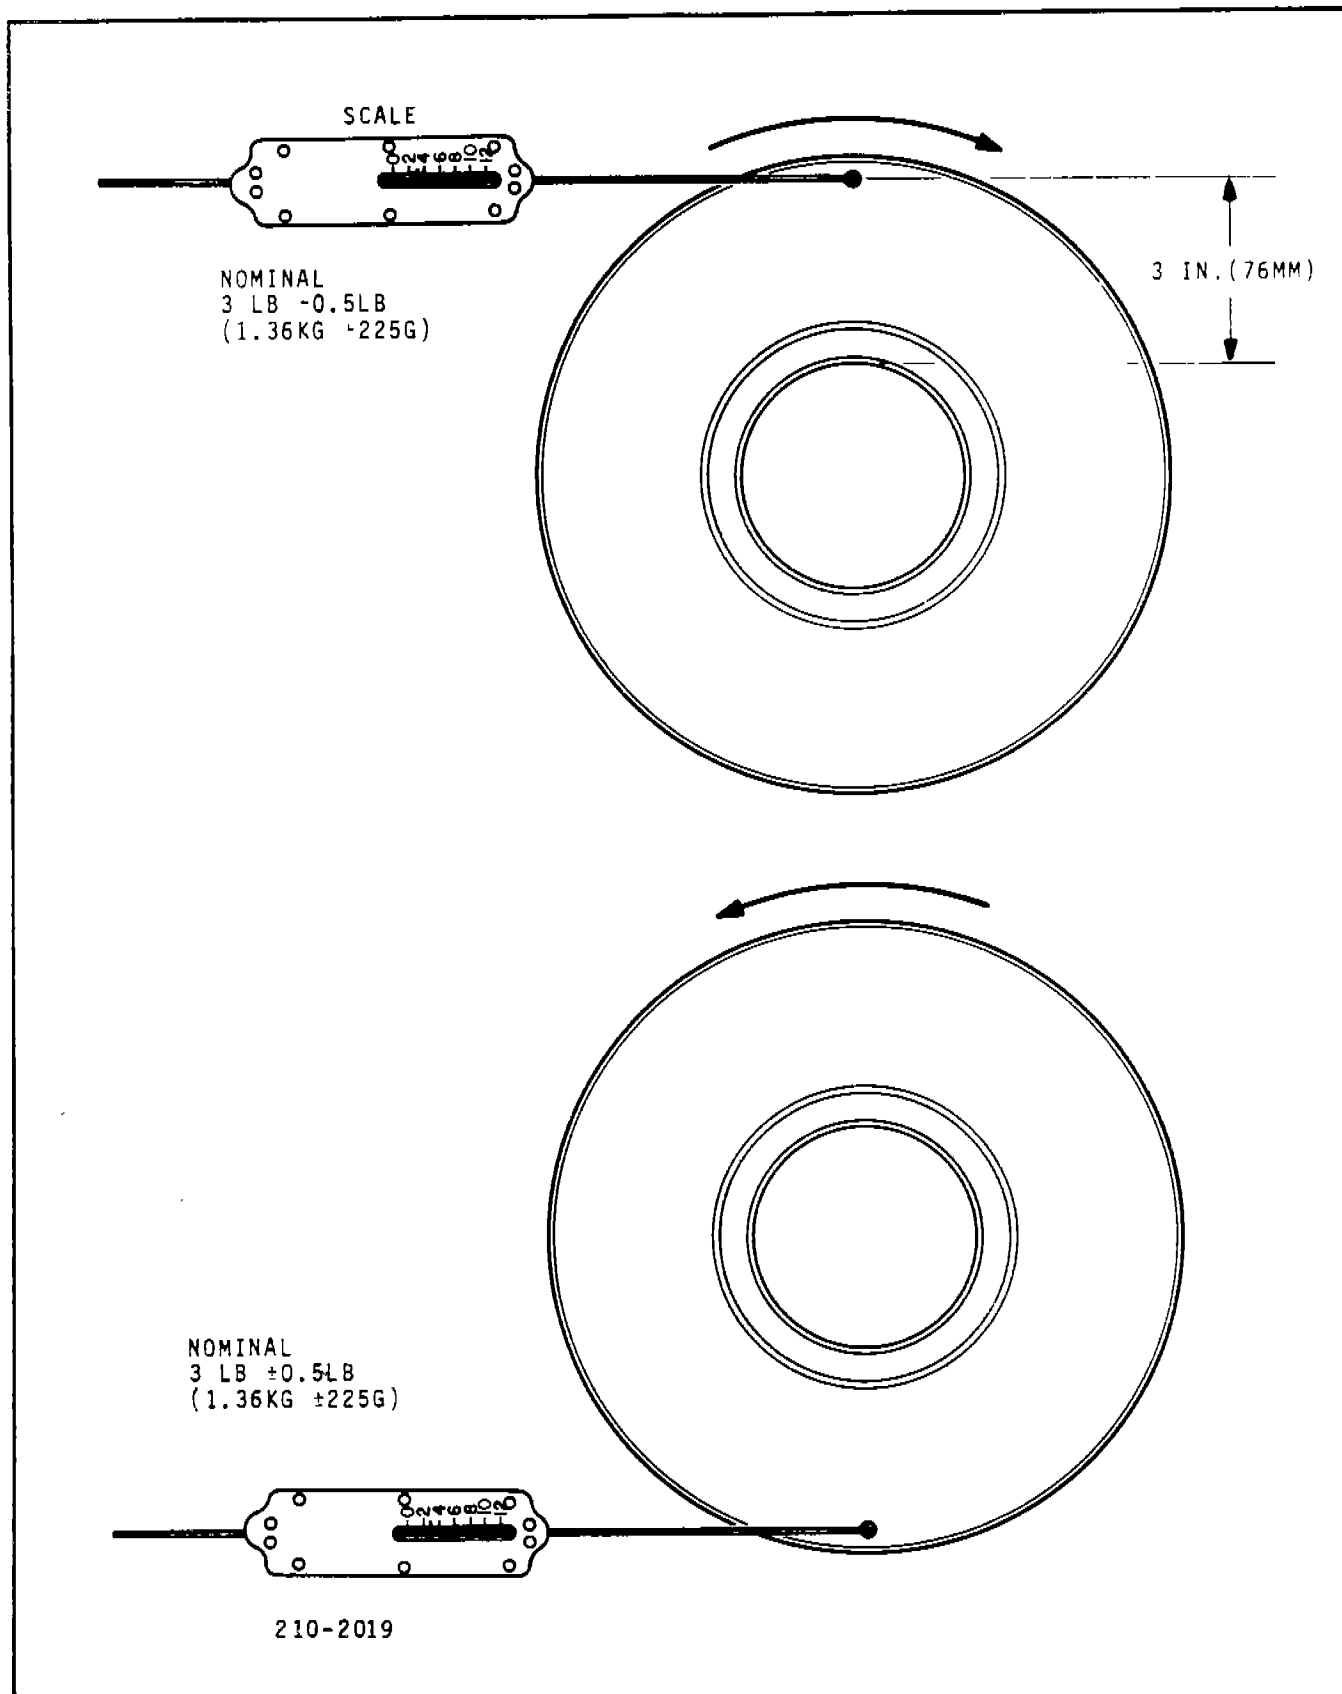

Figure 4-4. Reel Servo Torque Check
- a. Drill a hole in the reel flange 3 inches (76 mm), measured radially, from the outside of the hub hole (see Figure 4-4).